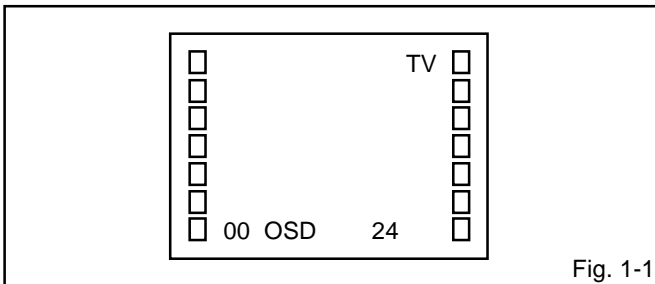

Fig. 1-1
1. In the condition of NO indication on the screen. Press the VOL. DOWN button on the set and the Channel button (9) on the remote control for more than 1 second to appear the adjustment mode on the screen as shown in Fig. 1-1.
2. Activate the adjustment mode display of Fig. 1-1 and press the channel button (01) on the remote control to select "CUT OFF".
4. Activate the adjustment mode display of Fig. 1-1 and press the channel button (10) on the remote control to select "R. DRIVE".
3. Activate the adjustment mode display of Fig. 1-1 and press the channel button (03) on the remote control to select "H.PHAS".